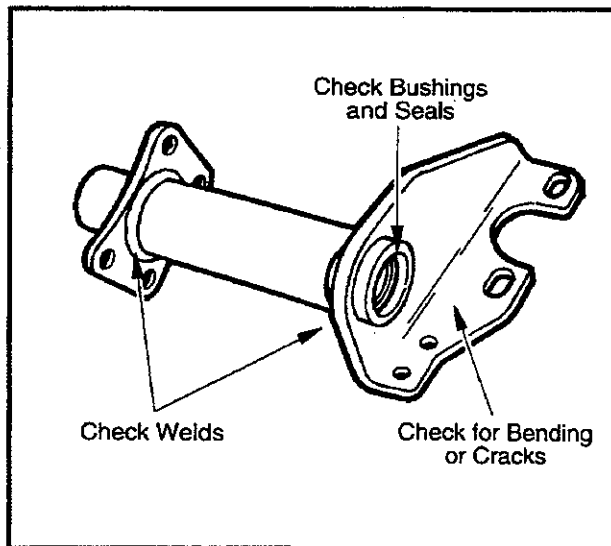

Figure 36—Air Chamber Bracket
7. Inspect air chamber bracket. (See Figure 36—Air Chamber Bracket.)